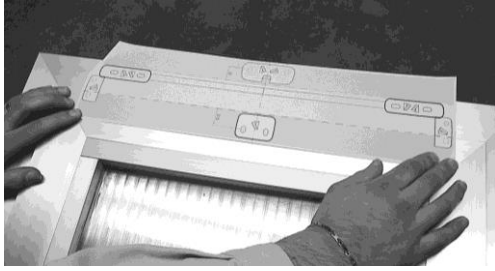

Figure 9
- C. Attach the template to the window frame (fixed part) and line axis up with the centre line "X" traced earlier (Fig. 9). Warning: for window frames not on the same plane, cut the part of the template coloured in grey and fix this to the moveable part of the window frame, taking care to keep it in the same position.